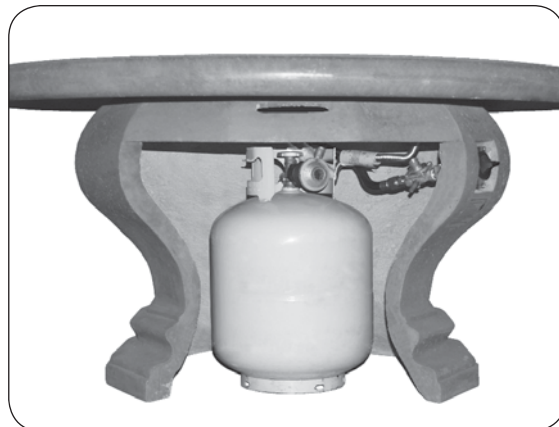

Fig. 22-2 L.P. Cylinder placement
3. The propane cylinder (not included) is to be located inside the base of the unit, via the storage door opening (see Fig. 22-2).